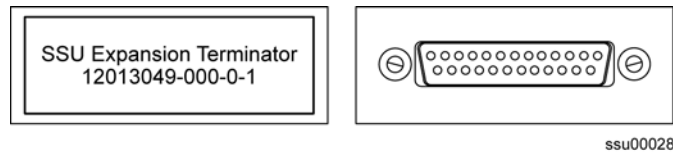

Figure 2-14. SSU-2000e Expansion Terminator
4. If you are not connecting additional Expansion shelves, verify that the Bus Termination Assembly is inserted into the last SDU Interface (J105) and last SDU Backup Clock (J106) of the main SDU-2000e shelf, see Figure 2-14.
The SDU-2000e Expansion Chassis has interface connections on the front panel for connecting to an SSU-2000e Synchronous Supply Unit. Connections include the SDU Interface (J103 and J105) and the SDU Backup Clock Terminal (J104 and J106). Figure 2-14 shows SDU-2000e expansion unit cabling.
Connection to the SSU-2000e is made through the SDU Interface Connectors. The SDU Interface Connections, J103 and J105, are 25 Pin D-Type female connectors with locking posts. The signals are differential pairs and connected in parallel. One connector is used to connect to a source unit, and the other is used for either a terminator or for feeding an additional SDU-2000e shelf. Up to four SDU-2000e shelves can be daisy-chained together. See Figure 2-14 for expansion unit cabling.
Figure 2-14 shows an SSU-2000e Expansion Terminator (part number 12013049-000-0). Install this terminator to the last expansion chassis in the daisy chain.